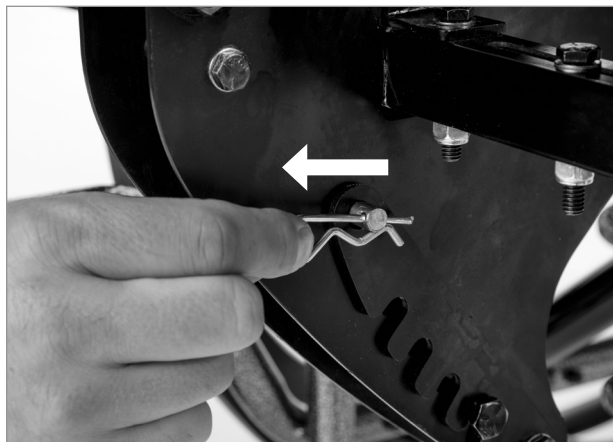

Figure 19a
- b. Remove hairpin from the round pin and then remove the round pin so that the adjustment lock swings freely. *(figures 19a and 19b)*